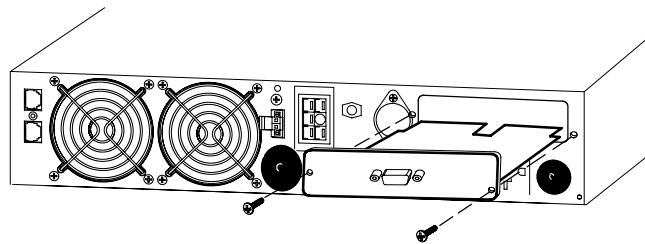

Figure 36. Removing the Single-Port Card
1. Remove the Single-Port Card on the UPS rear panel. Retain the screws (see Figure 36).